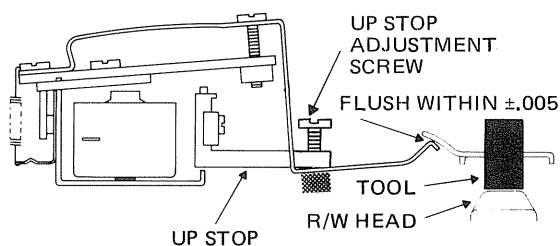

FIGURE 2 HEAD LOAD ACTUATOR UPSTOP ADJUSTMENT
- Adjust up stop on actuator so that bail just touches Head Load Arm or has  $.005$ " clearance or lifts Load Arm  $.005$ ". Reference Figure 2.